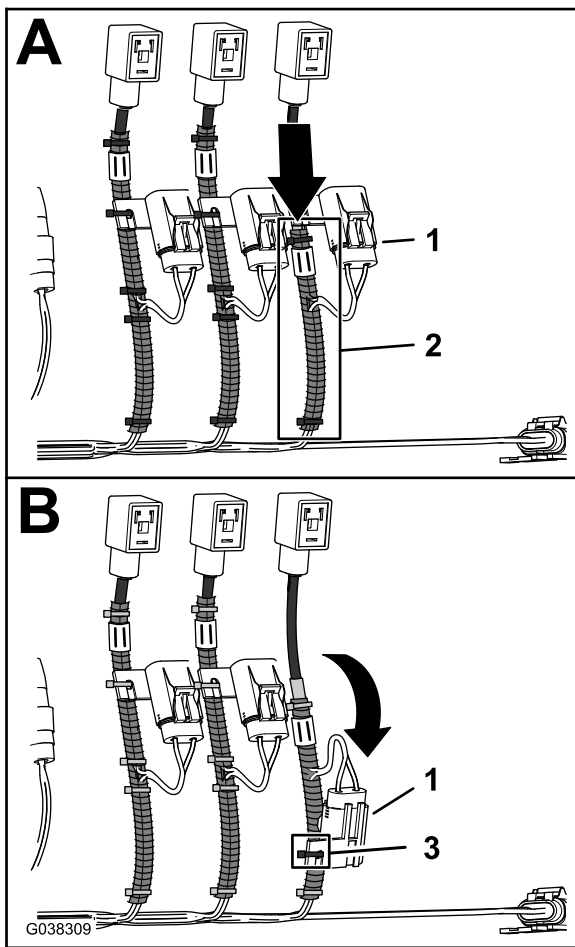

Figure 31
- 3. Position the convoluted tubing toward the main branch of the wire harness as shown in Figure 31.
4. Align the inline-fuse block to the convoluted tubing as shown in Figure 31 and secure the fuse block to the tubing with a cable tie.